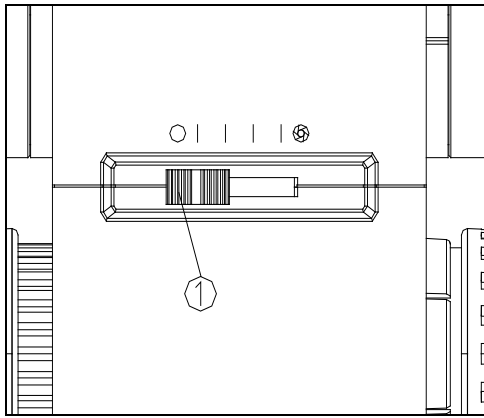

Fig.21
1. Adjust the aperture diaphragm by the aperture diaphragm adjustment lever (1). Move it to the left to enlarge the aperture diaphragm and move it to the right to decrease the aperture diaphragm. (See Fig. 21)